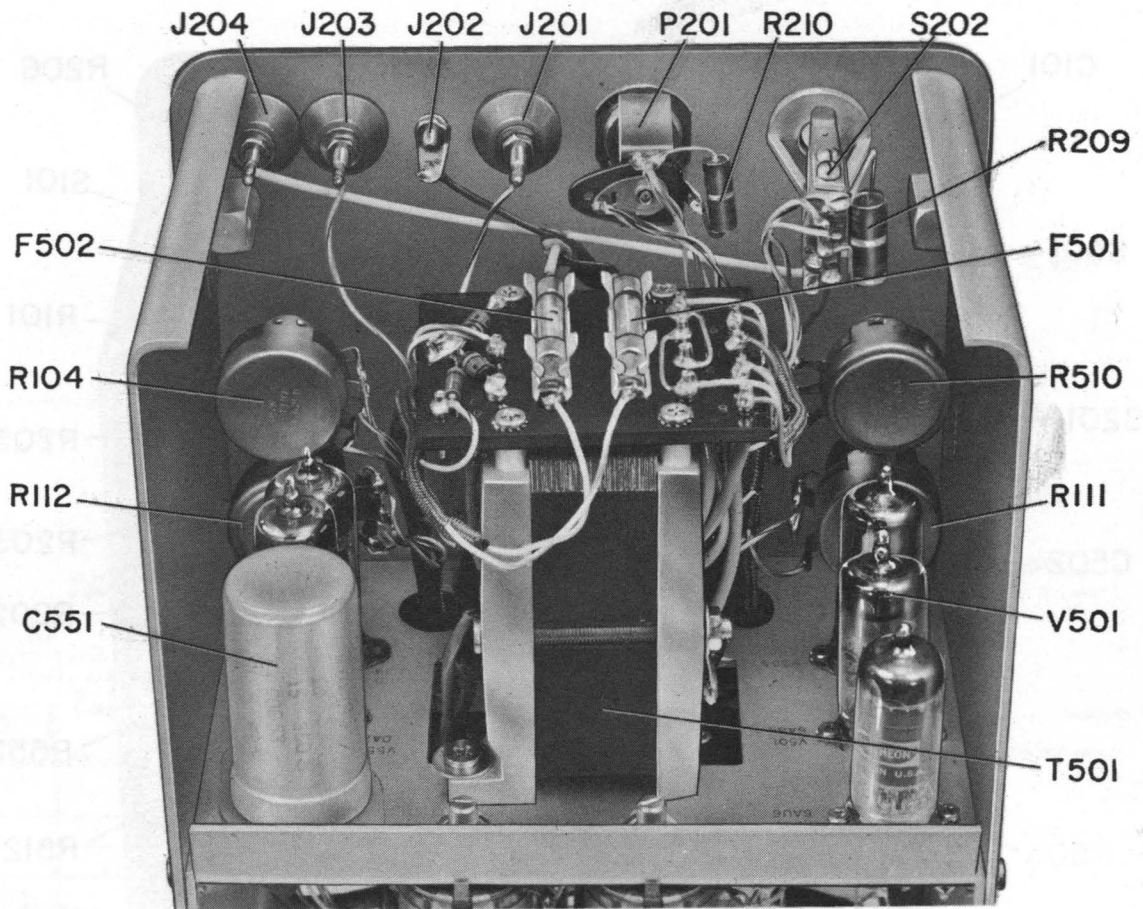

Figure 5-1. Top interior view of the Type 1862-C.
- a. Remove V501, a type 6AB4 tube (see Figure 5-1).
5.4.3 VOLTAGE ADJUSTMENTS. The voltage between the + UNKNOWN terminal and the GUARD terminal should be set to 501 volts for the 500-volt test voltage and to 102 volts for the 100-volt test voltage. The 500-volt adjustment, R510, is available on the panel (see Figure 5-1) and the 100-volt adjustment, R512, is located at the rear of the internal shelf. A very accurate voltmeter is required. Note that an error in the setting of the 500-volt supply does not directly cause an error in resistance measurements at 500 volts because the CHECK adjustment calibrates the meter at the actual voltage. Also, 100-volt measurements will be correct if the ratio between the two voltages is correct.